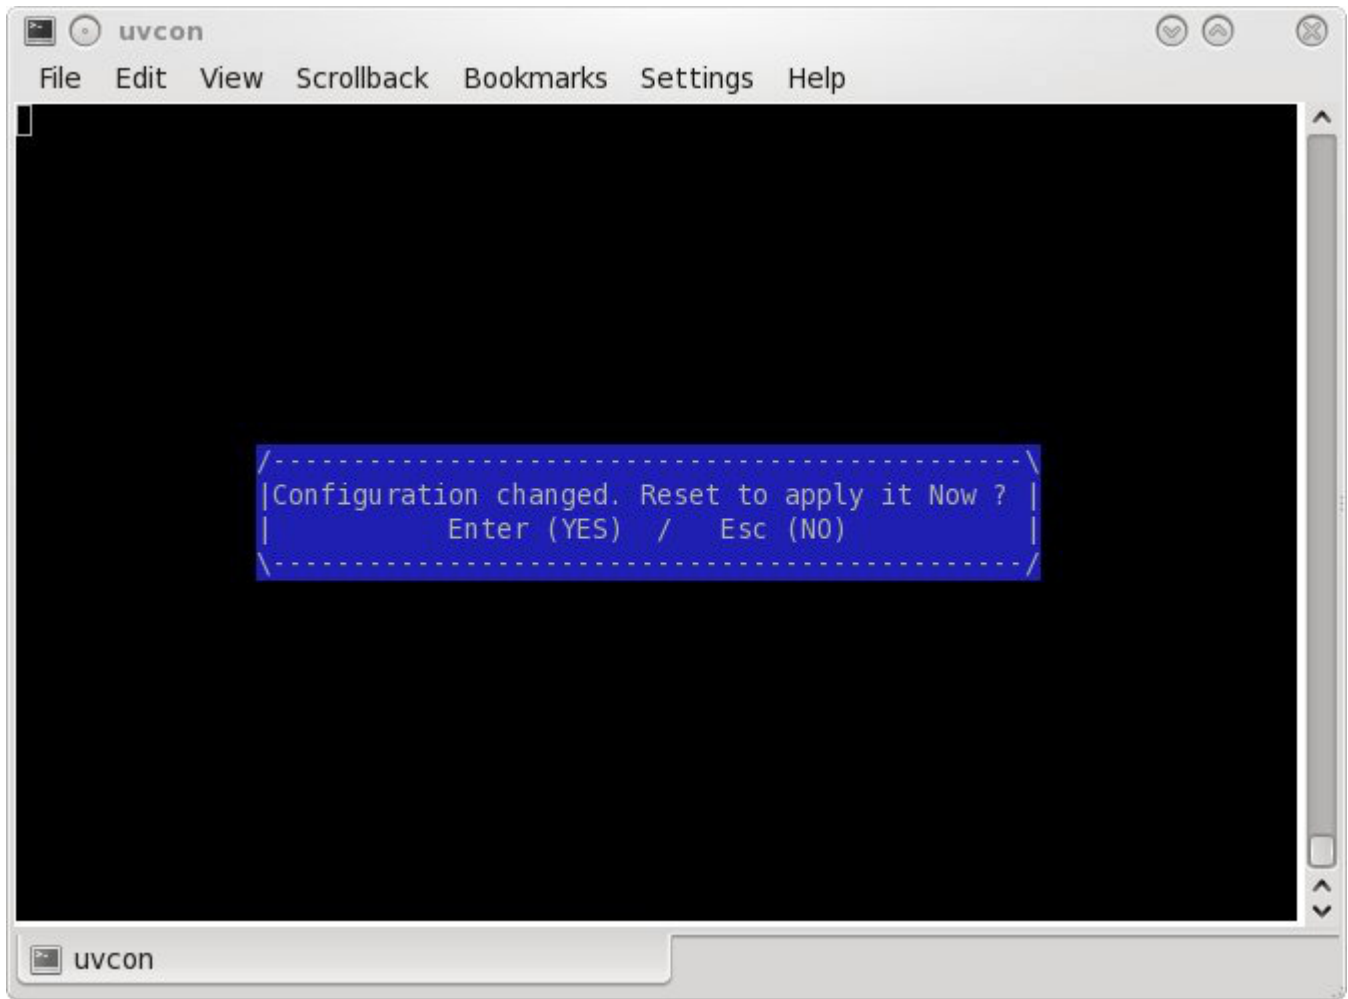

Figure 2-8 Reset Screen
8. Press the `Esc` key until the screen shown in Figure 2-8 on page 36 appears: